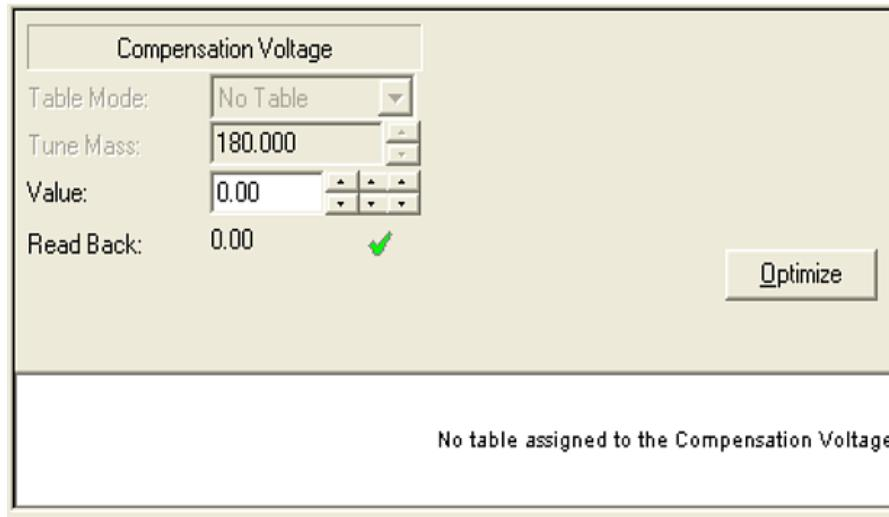

Figure 30. Tune view for the compensation voltage
2. Click **Compensation Voltage** to display the Tune view for the compensation voltage, as Figure 30 shows.